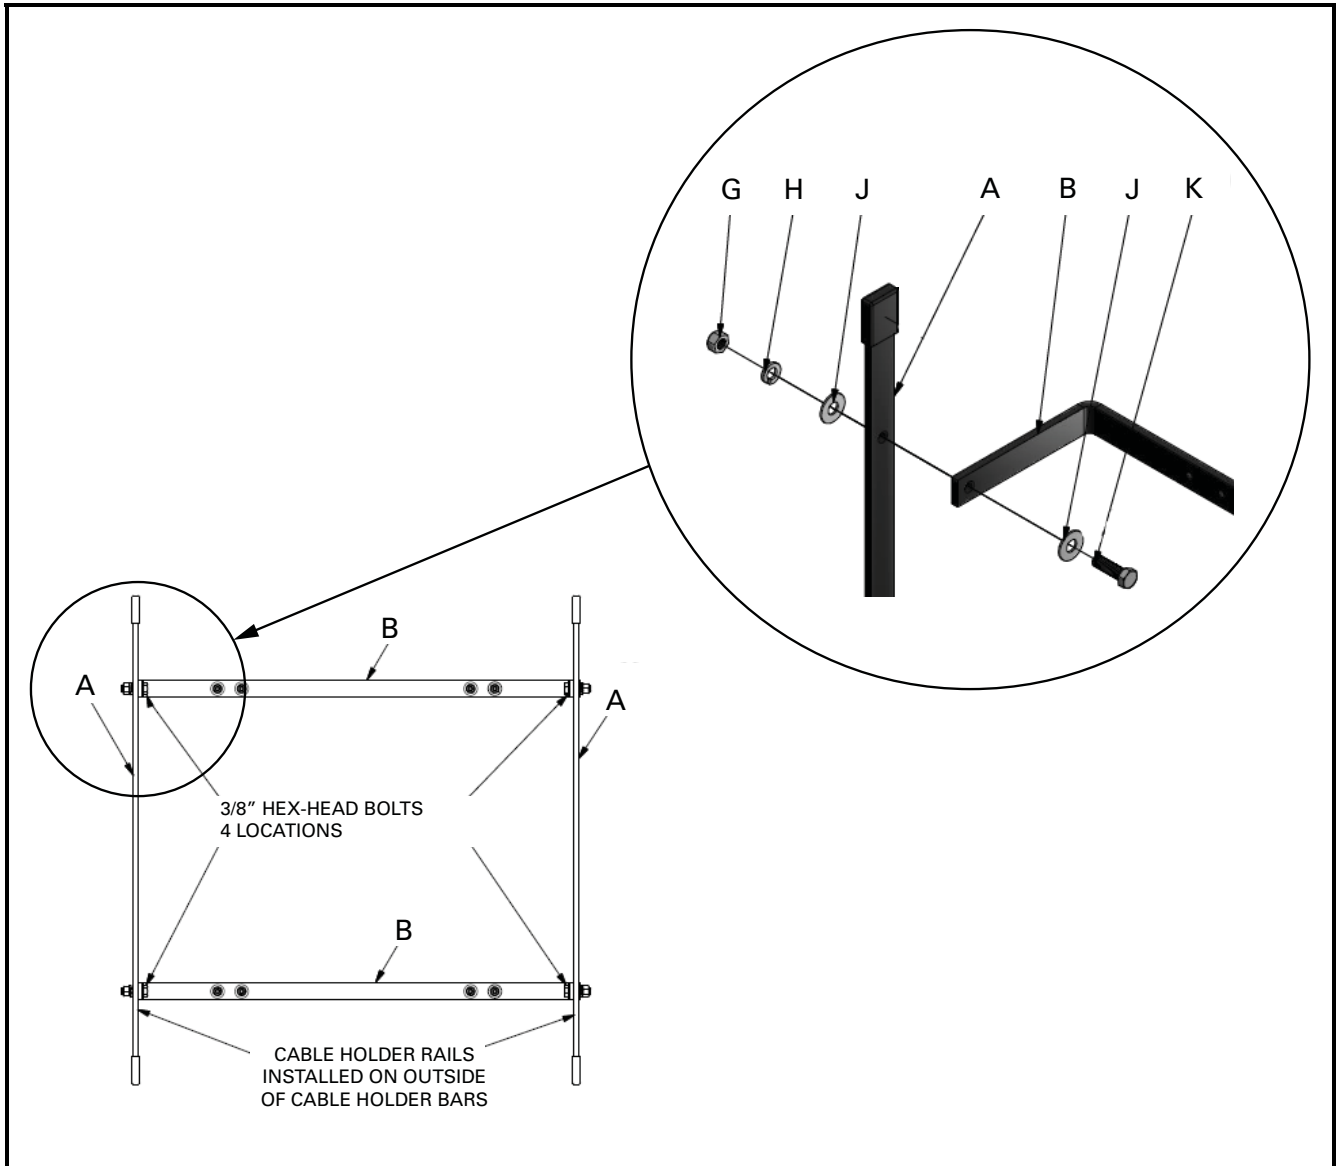

FIGURE 4. AC6000-MNT Assembly.
- Install the fastener components as shown in the detail in Fig. 4. Secure each of the bolts finger tight such that the two cable holder bars (B) can still move slightly. This will allow the mounting holes to be adjusted to line up with the mounting feet of the SB6100.